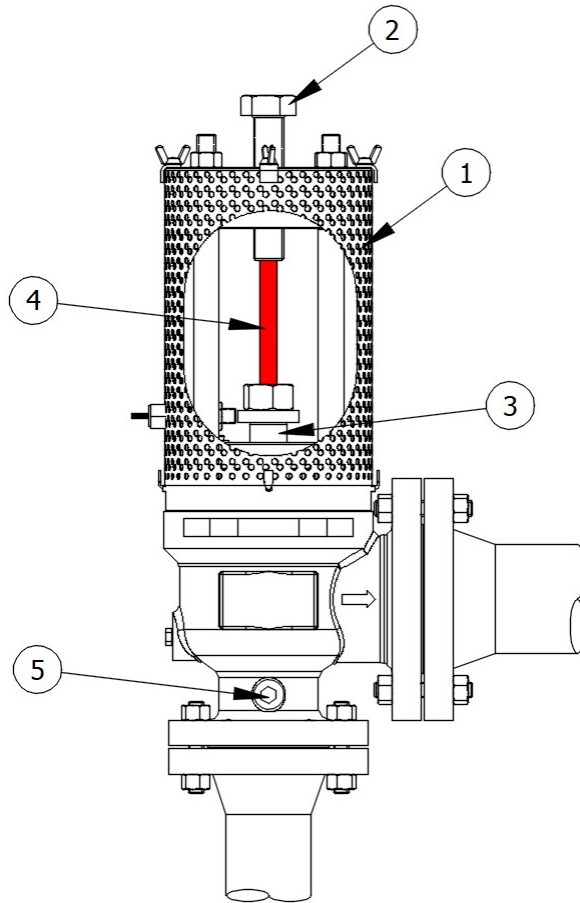

Figure 10: BPAV Piping Integrity Hydrostatic Test Set-up
- The piping integrity hydrostatic pressure test shall be conducted with valve installed in the Piping system with Plug in closed position as shown in Figure 10 below.
- The piping integrity hydrostatic test must be tested without any air inside the valve inlet section. The air can be vented out through the NPT at the inlet section of the valve as shown as Item 5 in Figure 10.
- Acceptance Criteria:** There shall be no visible leakage around the NPTs (Item 5 of Figure 10) at Inlet section.